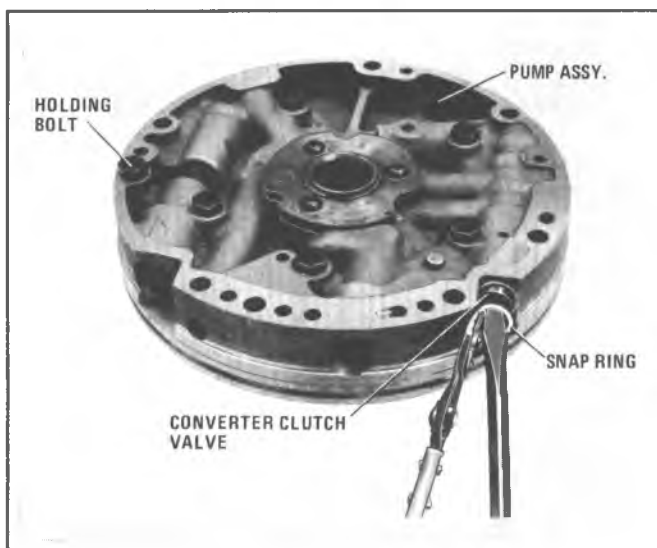

Figure 7A6-204 Removing Converter Clutch Valve Snap Ring
1. Using a small screwdriver, push on the converter clutch stop valve, compressing the converter clutch valve spring; and using a snap ring pliers, remove the retaining snap ring (Figure 7A6-204).